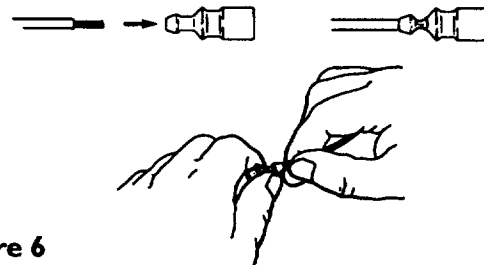

Figure 6
8. Insert stripped wire end in small end of fuse holder half; crimp holder onto wire and check crimp for tightness (Figure 6).